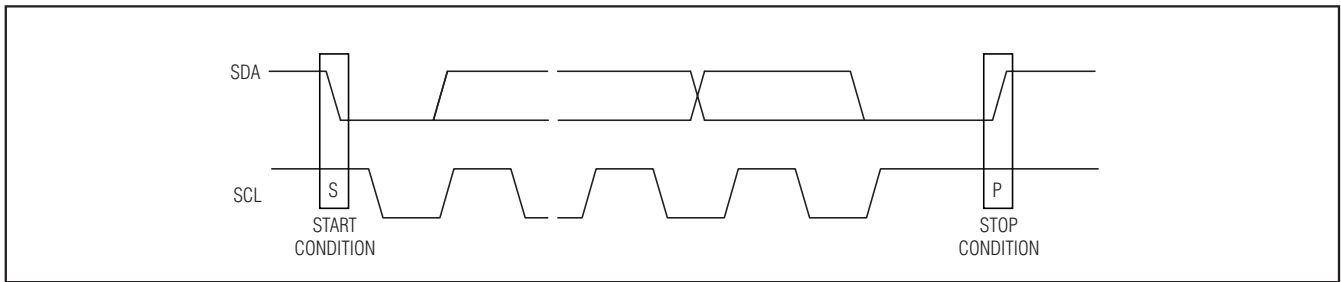
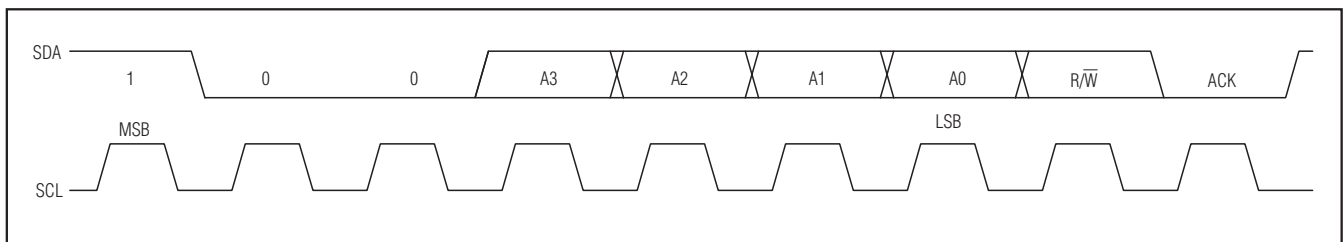

Figure 3. Standard Stop Conditions
Figure 6. Slave Address
Each transmission consists of a START condition (Figure 3) sent by a master, followed by the MAX6956 7-bit slave address plus R/W bit (Figure 6), a register address byte, one or more data bytes, and finally a STOP condition (Figure 3).
has finished communicating with the slave, it issues a STOP (P) condition by transitioning SDA from low to high while SCL is high. The bus is then free for another transmission (Figure 3).
The MAX6956 has a 7-bit-long slave address (Figure 6). The eighth bit following the 7-bit slave address is the $\overline{R/W}$ bit. It is low for a write command, high for a read command.